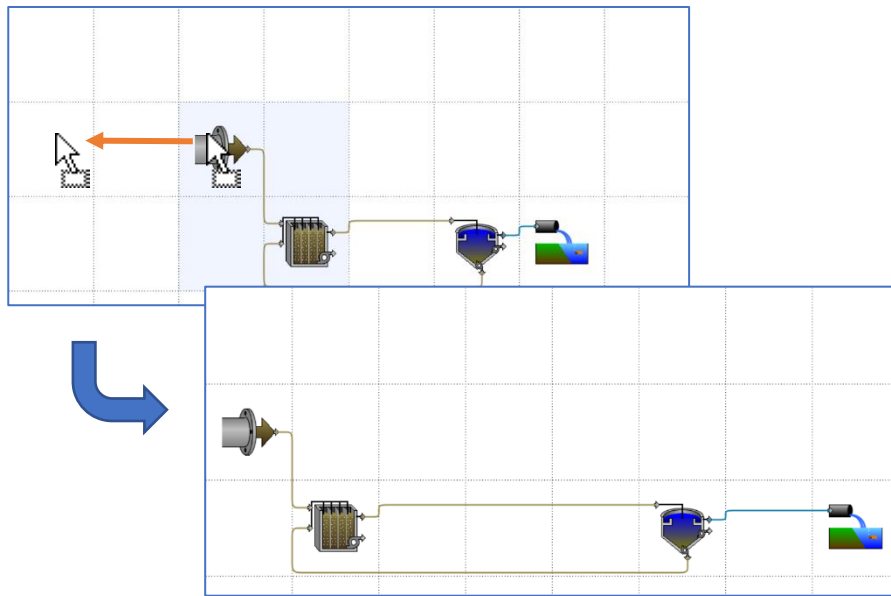

Figure 3-2 – Moving Multiple Unit Processes
6. **Move the influent and plug-flow tank objects** by clicking and dragging out a box around the influent and plug-flow objects. Then, with the mouse button pressed on one of the selected objects, drag the selected area to its new location on the drawing board (see **Figure 3-2**).